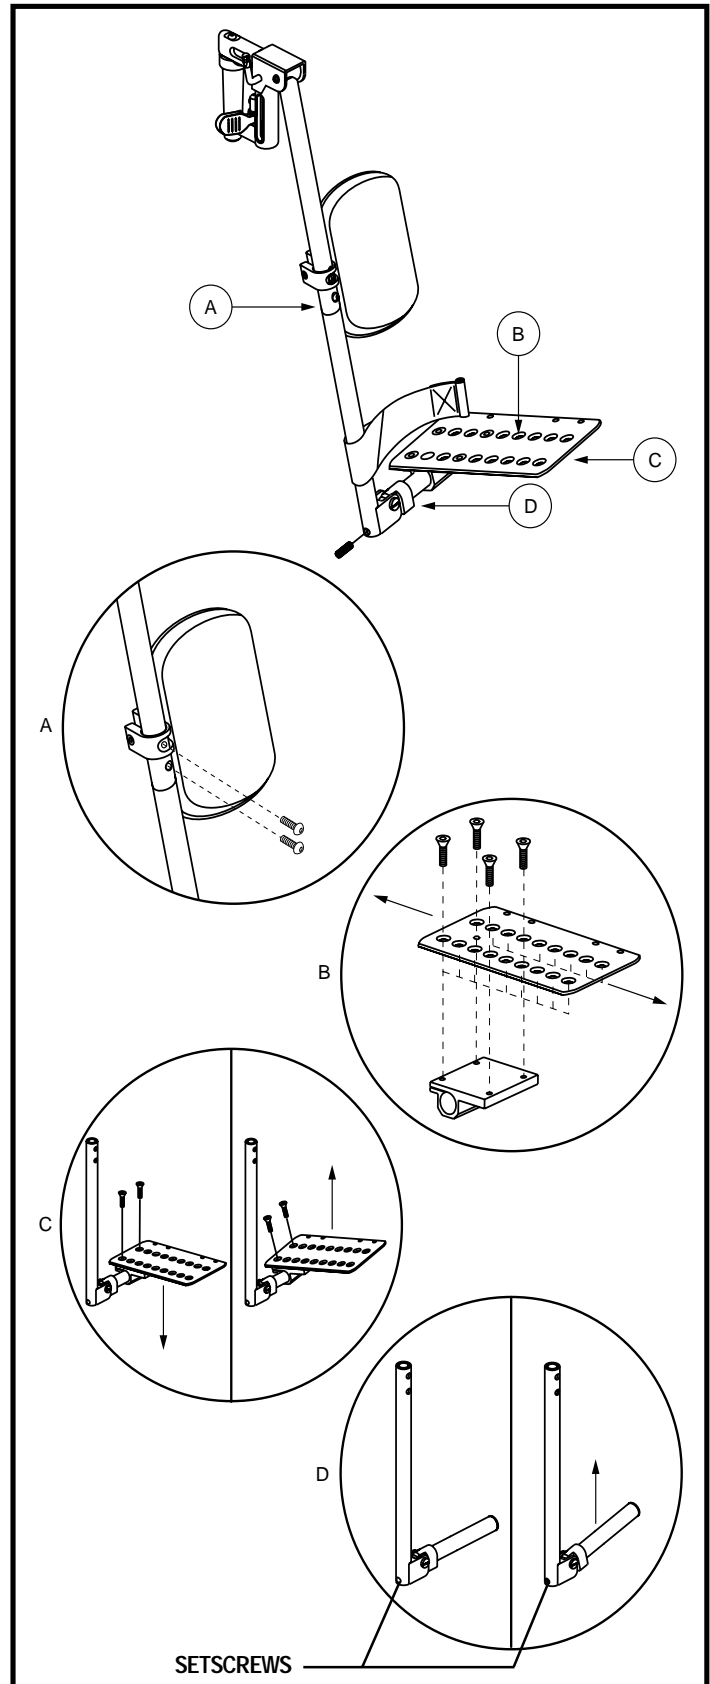

Figure 22. Multi-Axis Foot Plate (ELR Shown)
The multi-axis foot plate assembly can be installed on either a swing-away footrest or an elevating leg rest. The multi-axis foot plate has four adjustments: leg rest length (A), position (B), tilt (C), and angle (D). See figure 22.